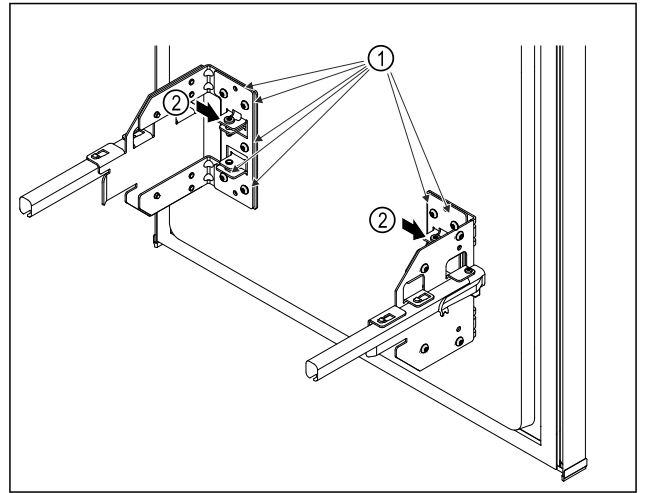

Fig. 9
- ▶ Loosen screws Fig. 9 (1) slightly.
- ▶ Turn the screws Fig. 9 (2) to move the telescopic unit up or down.
- ▶ Tighten the screws Fig. 9 (1) as far as they will go.